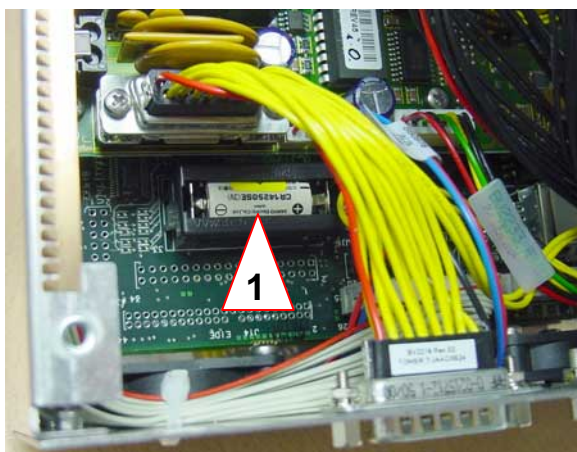

Fig. 3-48 MBX board battery
4. Take the MBX board battery out of the holder (see Fig. 3-48, **1**)